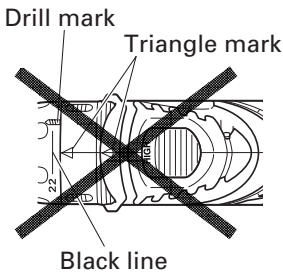

Fig. 23
- Do not use with the cap numeral at "22" and the black line at the middle of the drill mark. Doing so may cause damage. (See Fig. 23)